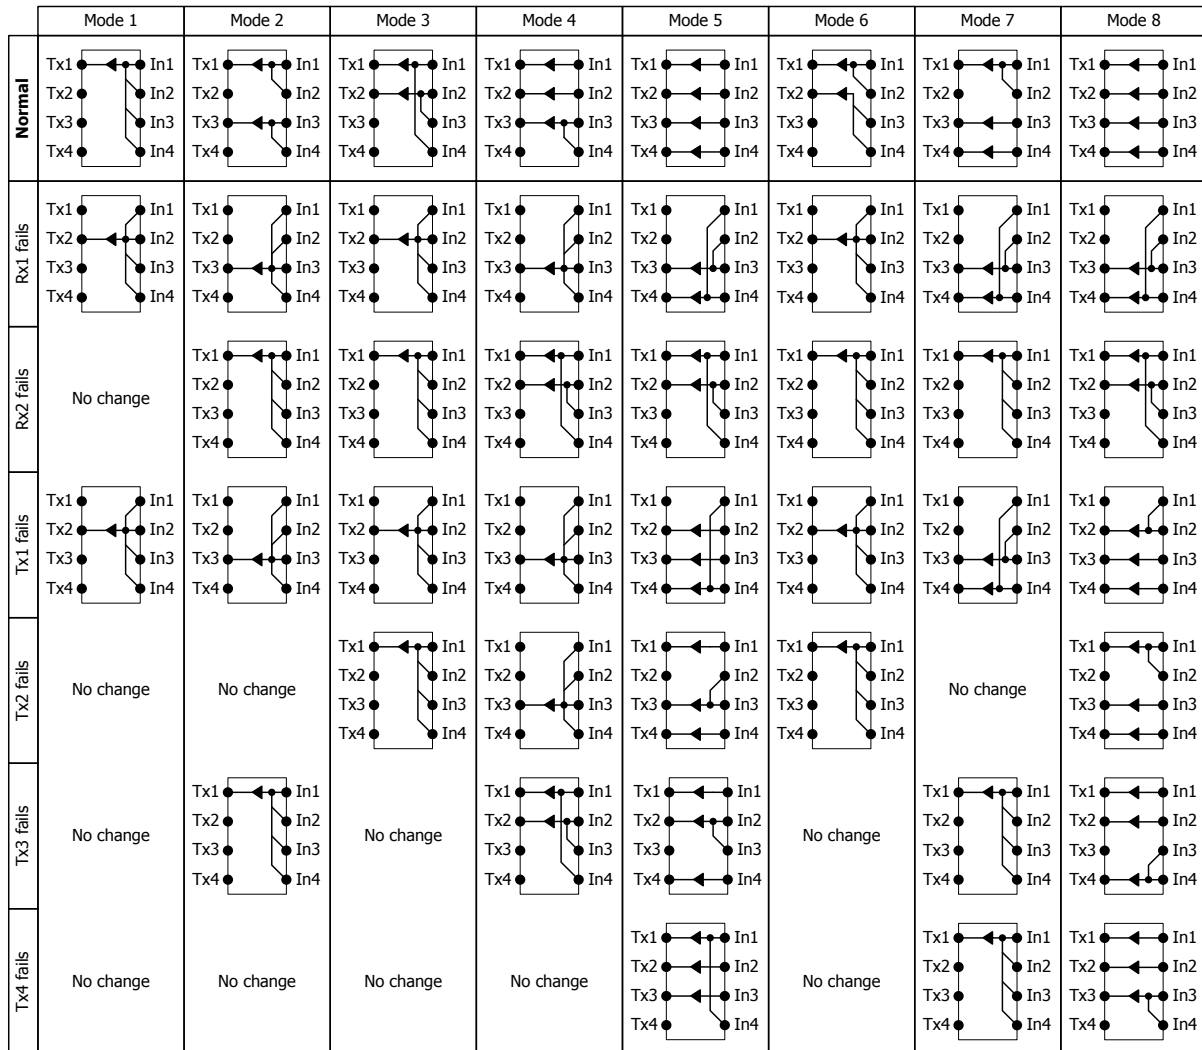

Figure 16. Return path signal routing
AC9000 currently supports 8 return path signal routing modes (see Figure 16):
- **Mode 8:** All RF ports to respective transmitters. Differs from Mode 5 only in backup switching, see Figure 16.
- **Automatic:** The signal to a specific optical transmitter is routed to associated backup transmitter if any of the following is true (see Figure 16):